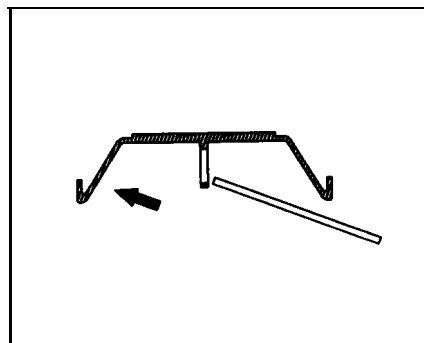
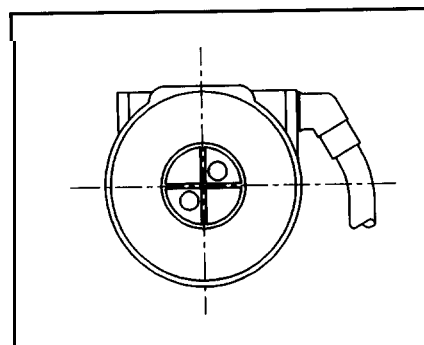

Fig.12
Fig: 13
- ◆ Carefully remove diaphragm by unhooking its centre location from balanced piston lever (Fig.12).
- ◆ Relocate diaphragm onto balanced piston lever (Fig.12) and locate diaphragm bead into groove in demand valve body (Fig.1 3) -note orientation.
- ◆ Relocate new diaphragm onto balanced piston lever (Fig.12) and locate diaphragm outer bead into groove in demand valve body (Fig. 13) note orientation.